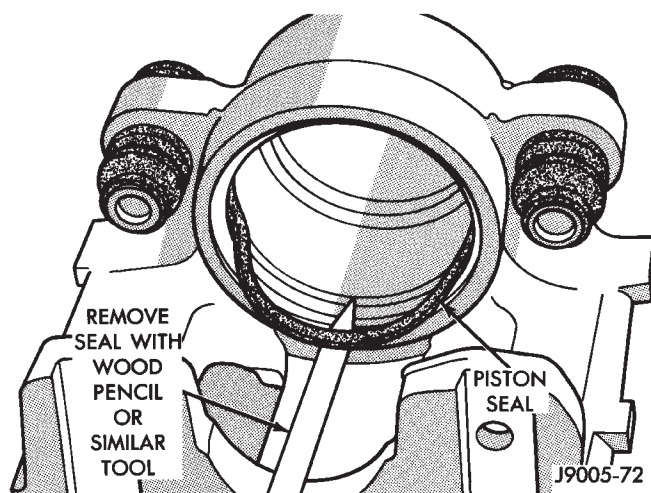

Fig. 49 Piston Seal Removal
(6) Remove caliper piston seal with wood or plastic tool (Fig. 49). Do not use metal tools as they will scratch piston bore.